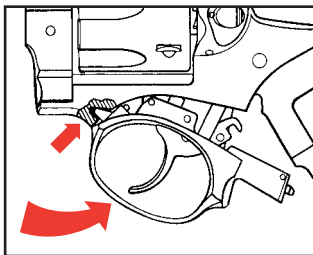
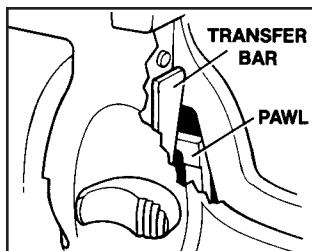

Figure 7
Figure 9
6. Use mainspring assembly to depress trigger guard lock plunger located inside frame at rear of trigger guard. Simultaneously pull down and remove trigger guard assembly (see Figures 7 & 8).
2. Hook front of trigger guard into recess in frame (see Figure 7). Align pawl in its recess in the frame and be sure transfer bar is in correct position in rear of firing pin. Swing trigger guard upward into position in frame then allow latch to re-engage. If solid resistance is felt when swinging trigger guard into frame, or if trigger guard will not lock into position re-check position of pawl and transfer bar (see Figure 9).